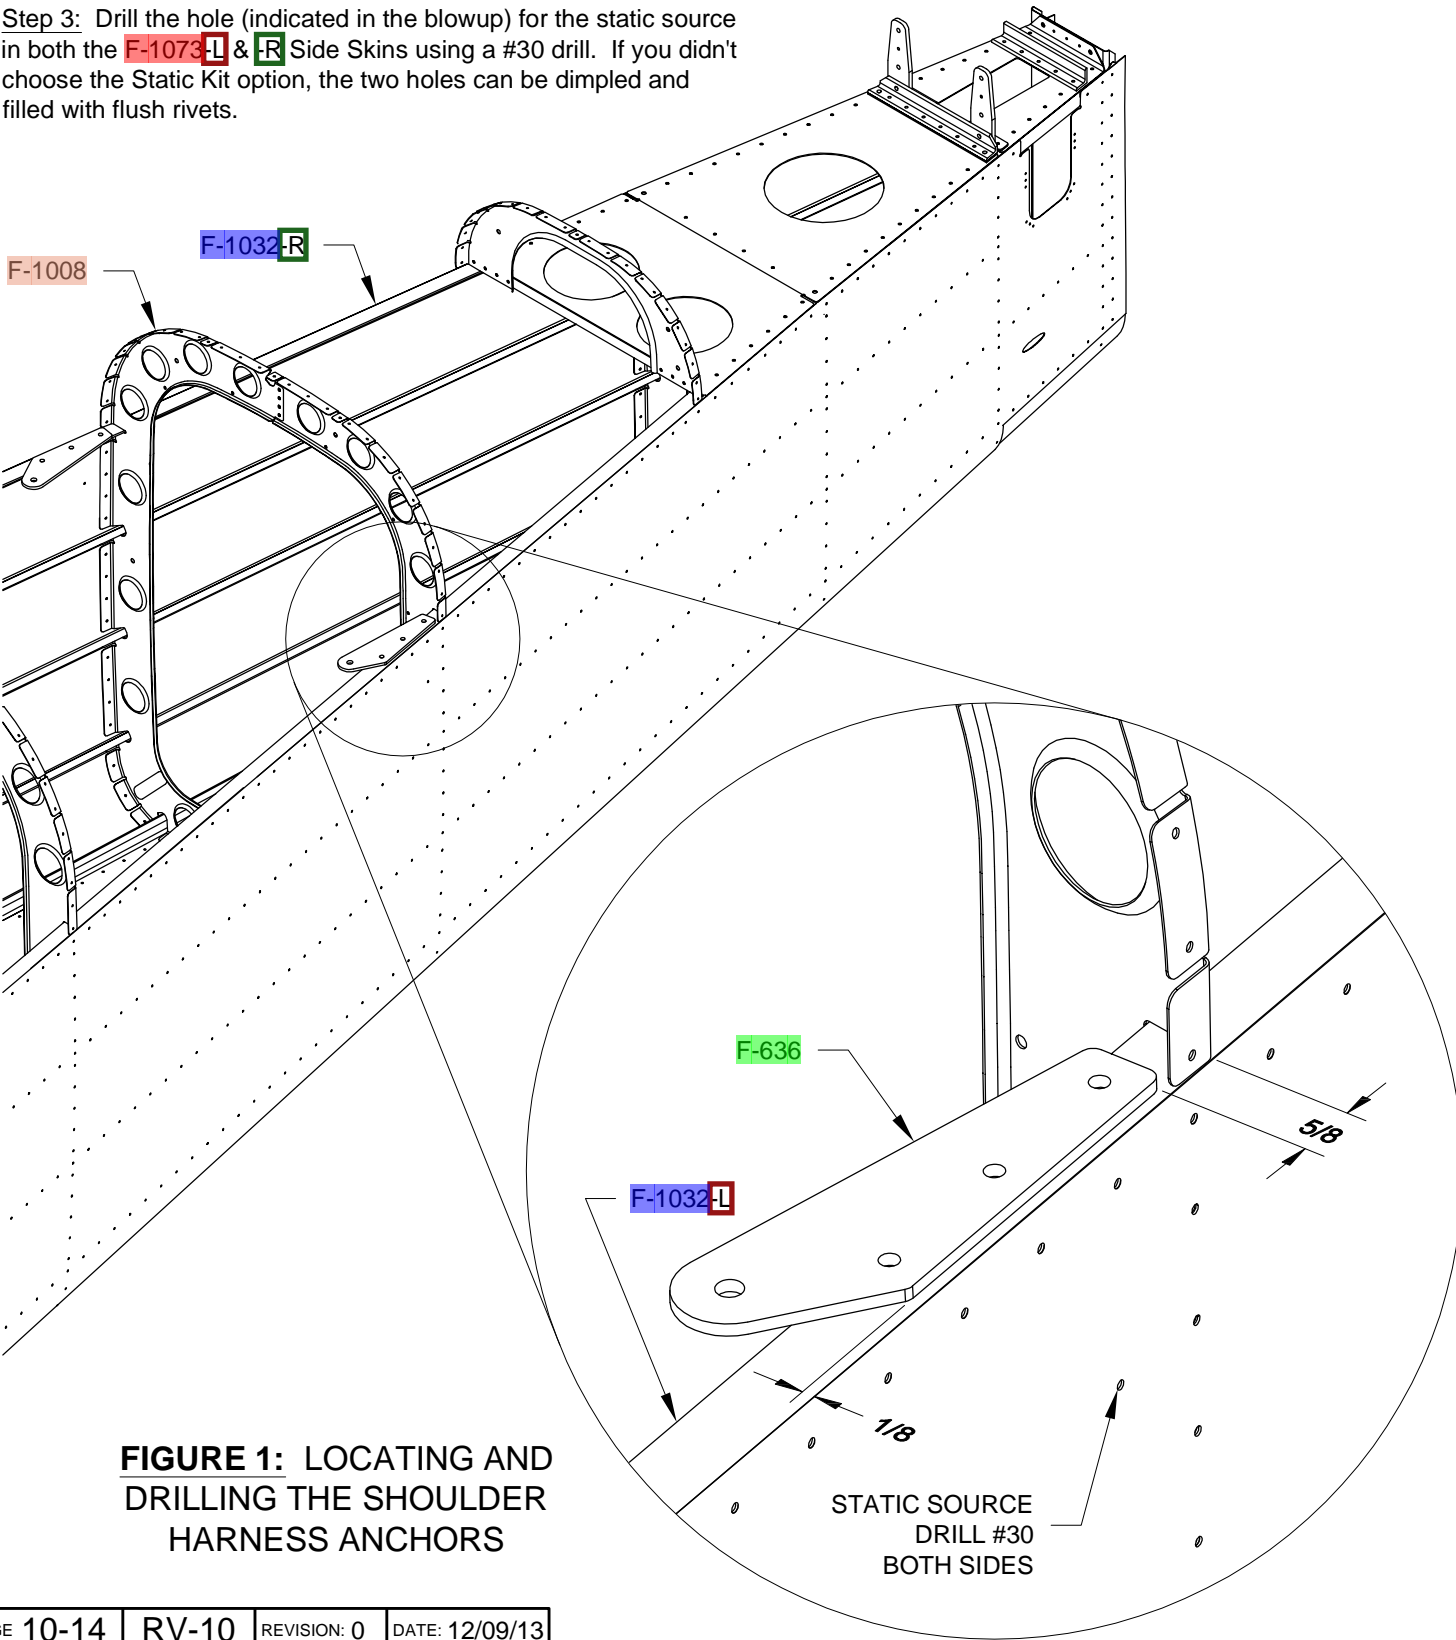

FIGURE 1: LOCATING AND DRILLING THE SHOULDER HARNESS ANCHORS
Step 2: Position one of the two F-636 Shoulder Harness Anchors on the F-1032-L Longerons (just forward of the F-1008 Frame) using the dimensions in the blowup of Figure 1. Clamp the anchor into position, then, using a #12 drill, match-drill the three holes of the anchor into the longerons.